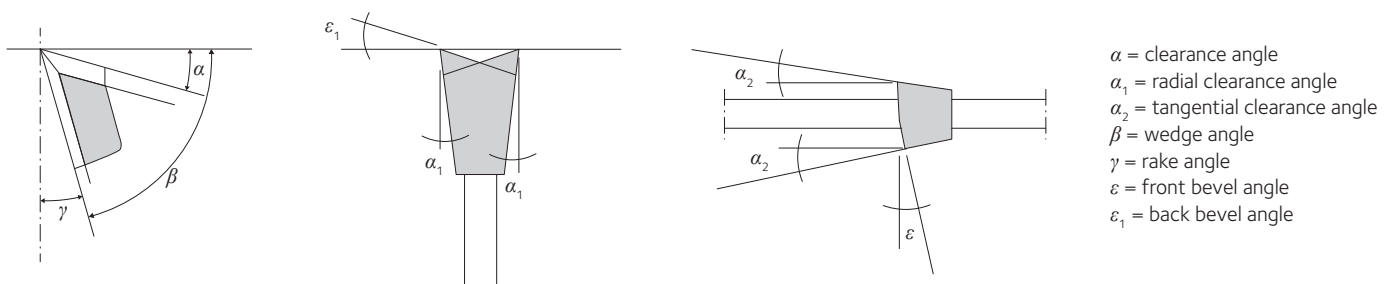

Figure 4.5 Definition of a sawtooth's cutting angles. The example shows a tooth with a soldered tip.
- radial clearance angle, *see fig. 4.5*